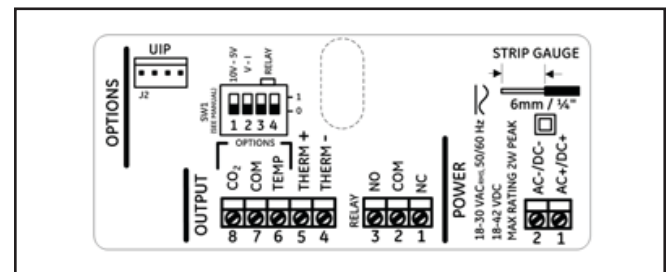

Figure 1: Internal Label
3. Select Voltage or Current output option and Voltage range (0-10 V or 0-5 V) using the SW1, switches #1 and #2 as shown on the internal label (Figure 1 and Table 1).